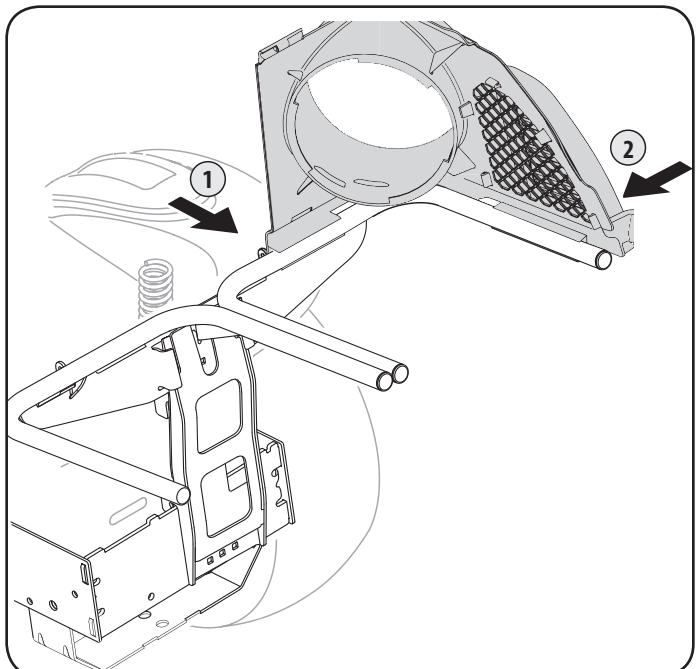

Figure 13
- Tilt the front of the upper chute support slightly forward and snap the front side latch to the rail, as shown in (1) of Figure 13. Slide clip behind tab.
- Snap the upper chute support in place by first clipping the side portion onto the bagger support rail with the edge of the snap feature aligned with the red line, see (2) in Figure 13.